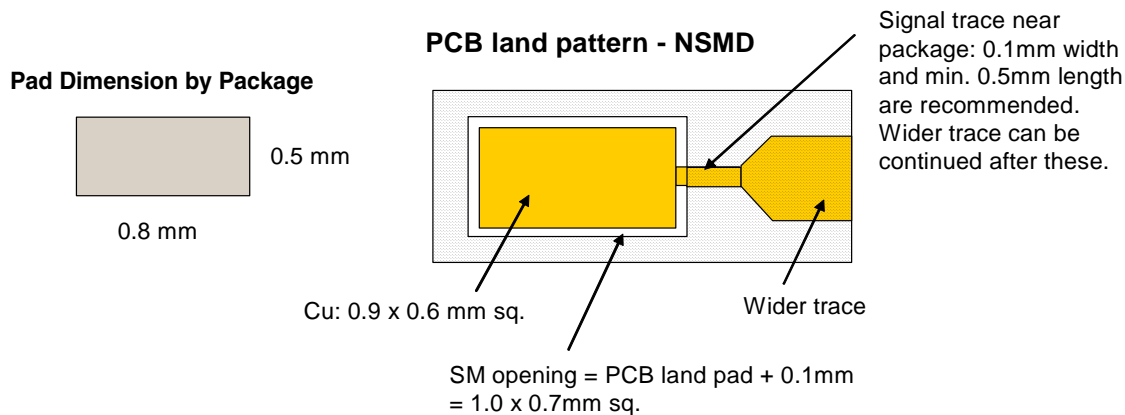
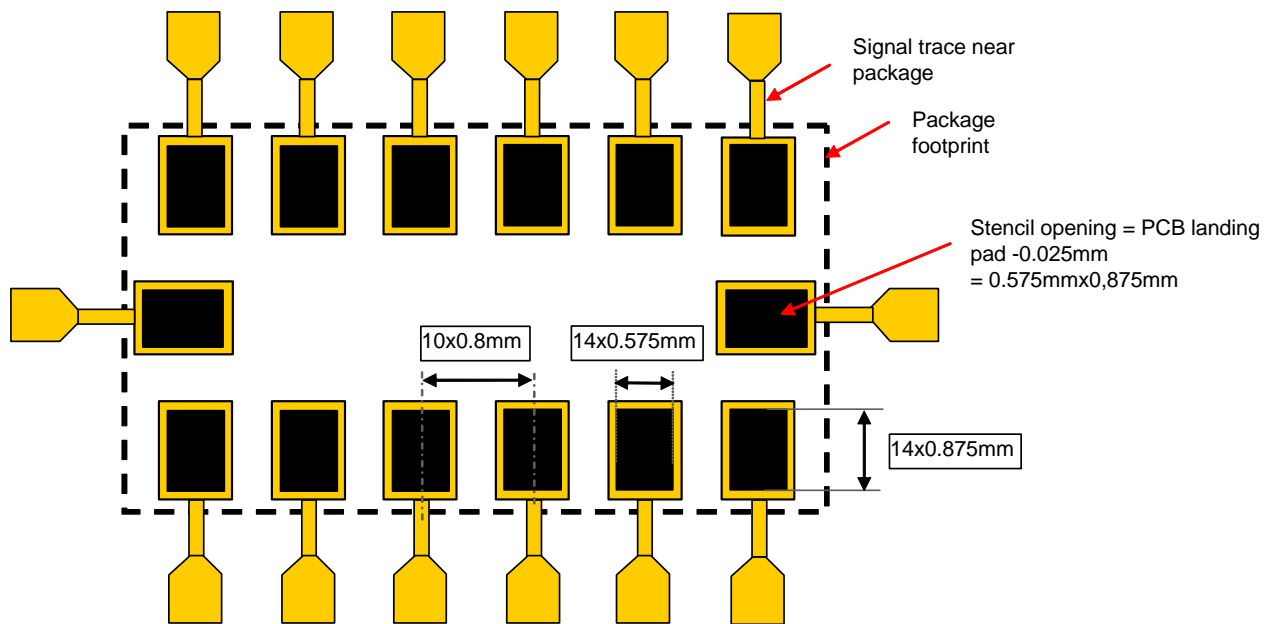

Figure 20. Recommended PCB Land Pad, Solder Mask, and Signal Trace Near Package Design
Figure 21. Stencil Design Guidelines
1. The PCB land should be designed with Non Solder Mask Defined (NSMD) as shown in Figure 20.
3. PCB land pad is 0.9 mm x 0.6 mm which is the size of the package pad plus 0.1 mm as shown in Figure 20.
4. The solder mask opening is equal to the size of the PCB land pad plus an extra 0.1 mm as shown in Figure 20.
7. Signal traces connected to pads should be as symmetric as possible. Put dummy traces on NC pads in order to have same length of exposed trace for all pads. Signal traces with 0.1 mm width and min. 0.5 mm length for all PCB land pads near the package are recommended as shown in Figure 20 and Figure 21. Wider trace can be continued after the 0.5 mm zone.